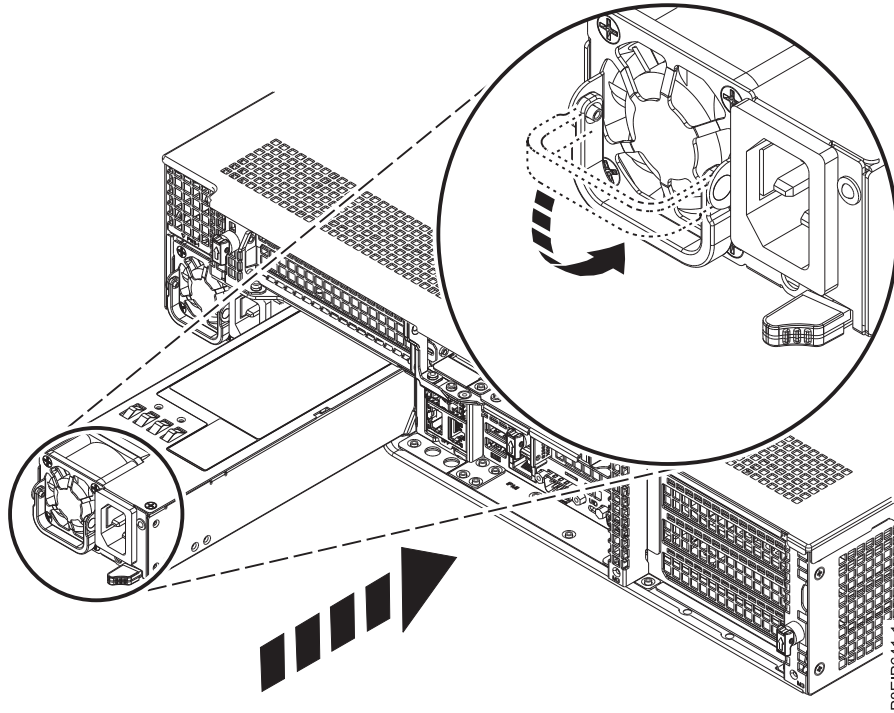

Figure 94. Replacing a power supply in the system
2. Align the power supply with the bay as shown in Figure 94 on page 89. The fan is on the left; the plug is on the right. Slide the power supply into the system until the latch locks in place.